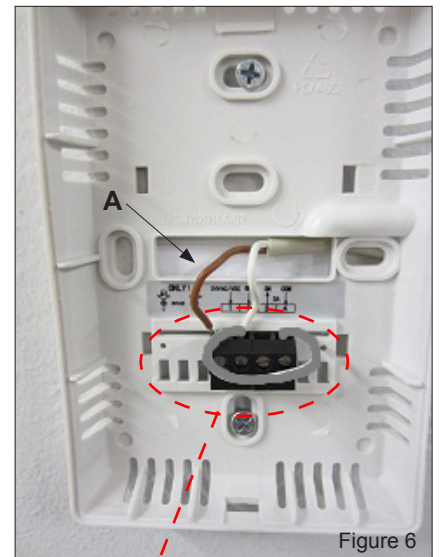

Figure 6
7. Insert the end of the power supply cable through the slot in the groove (A) on the alarm unit back piece, see Figure 6.